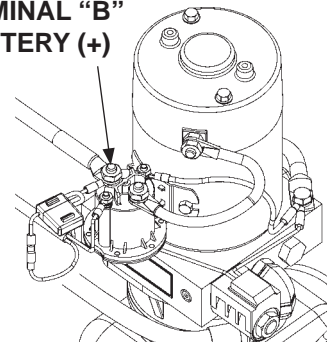

FIG. 37-1
1. Use voltmeter to verify power is being supplied to solenoid terminal "B". Recharge the battery if voltmeter indicates less than 12.6 volts (**FIG. 37-1**).